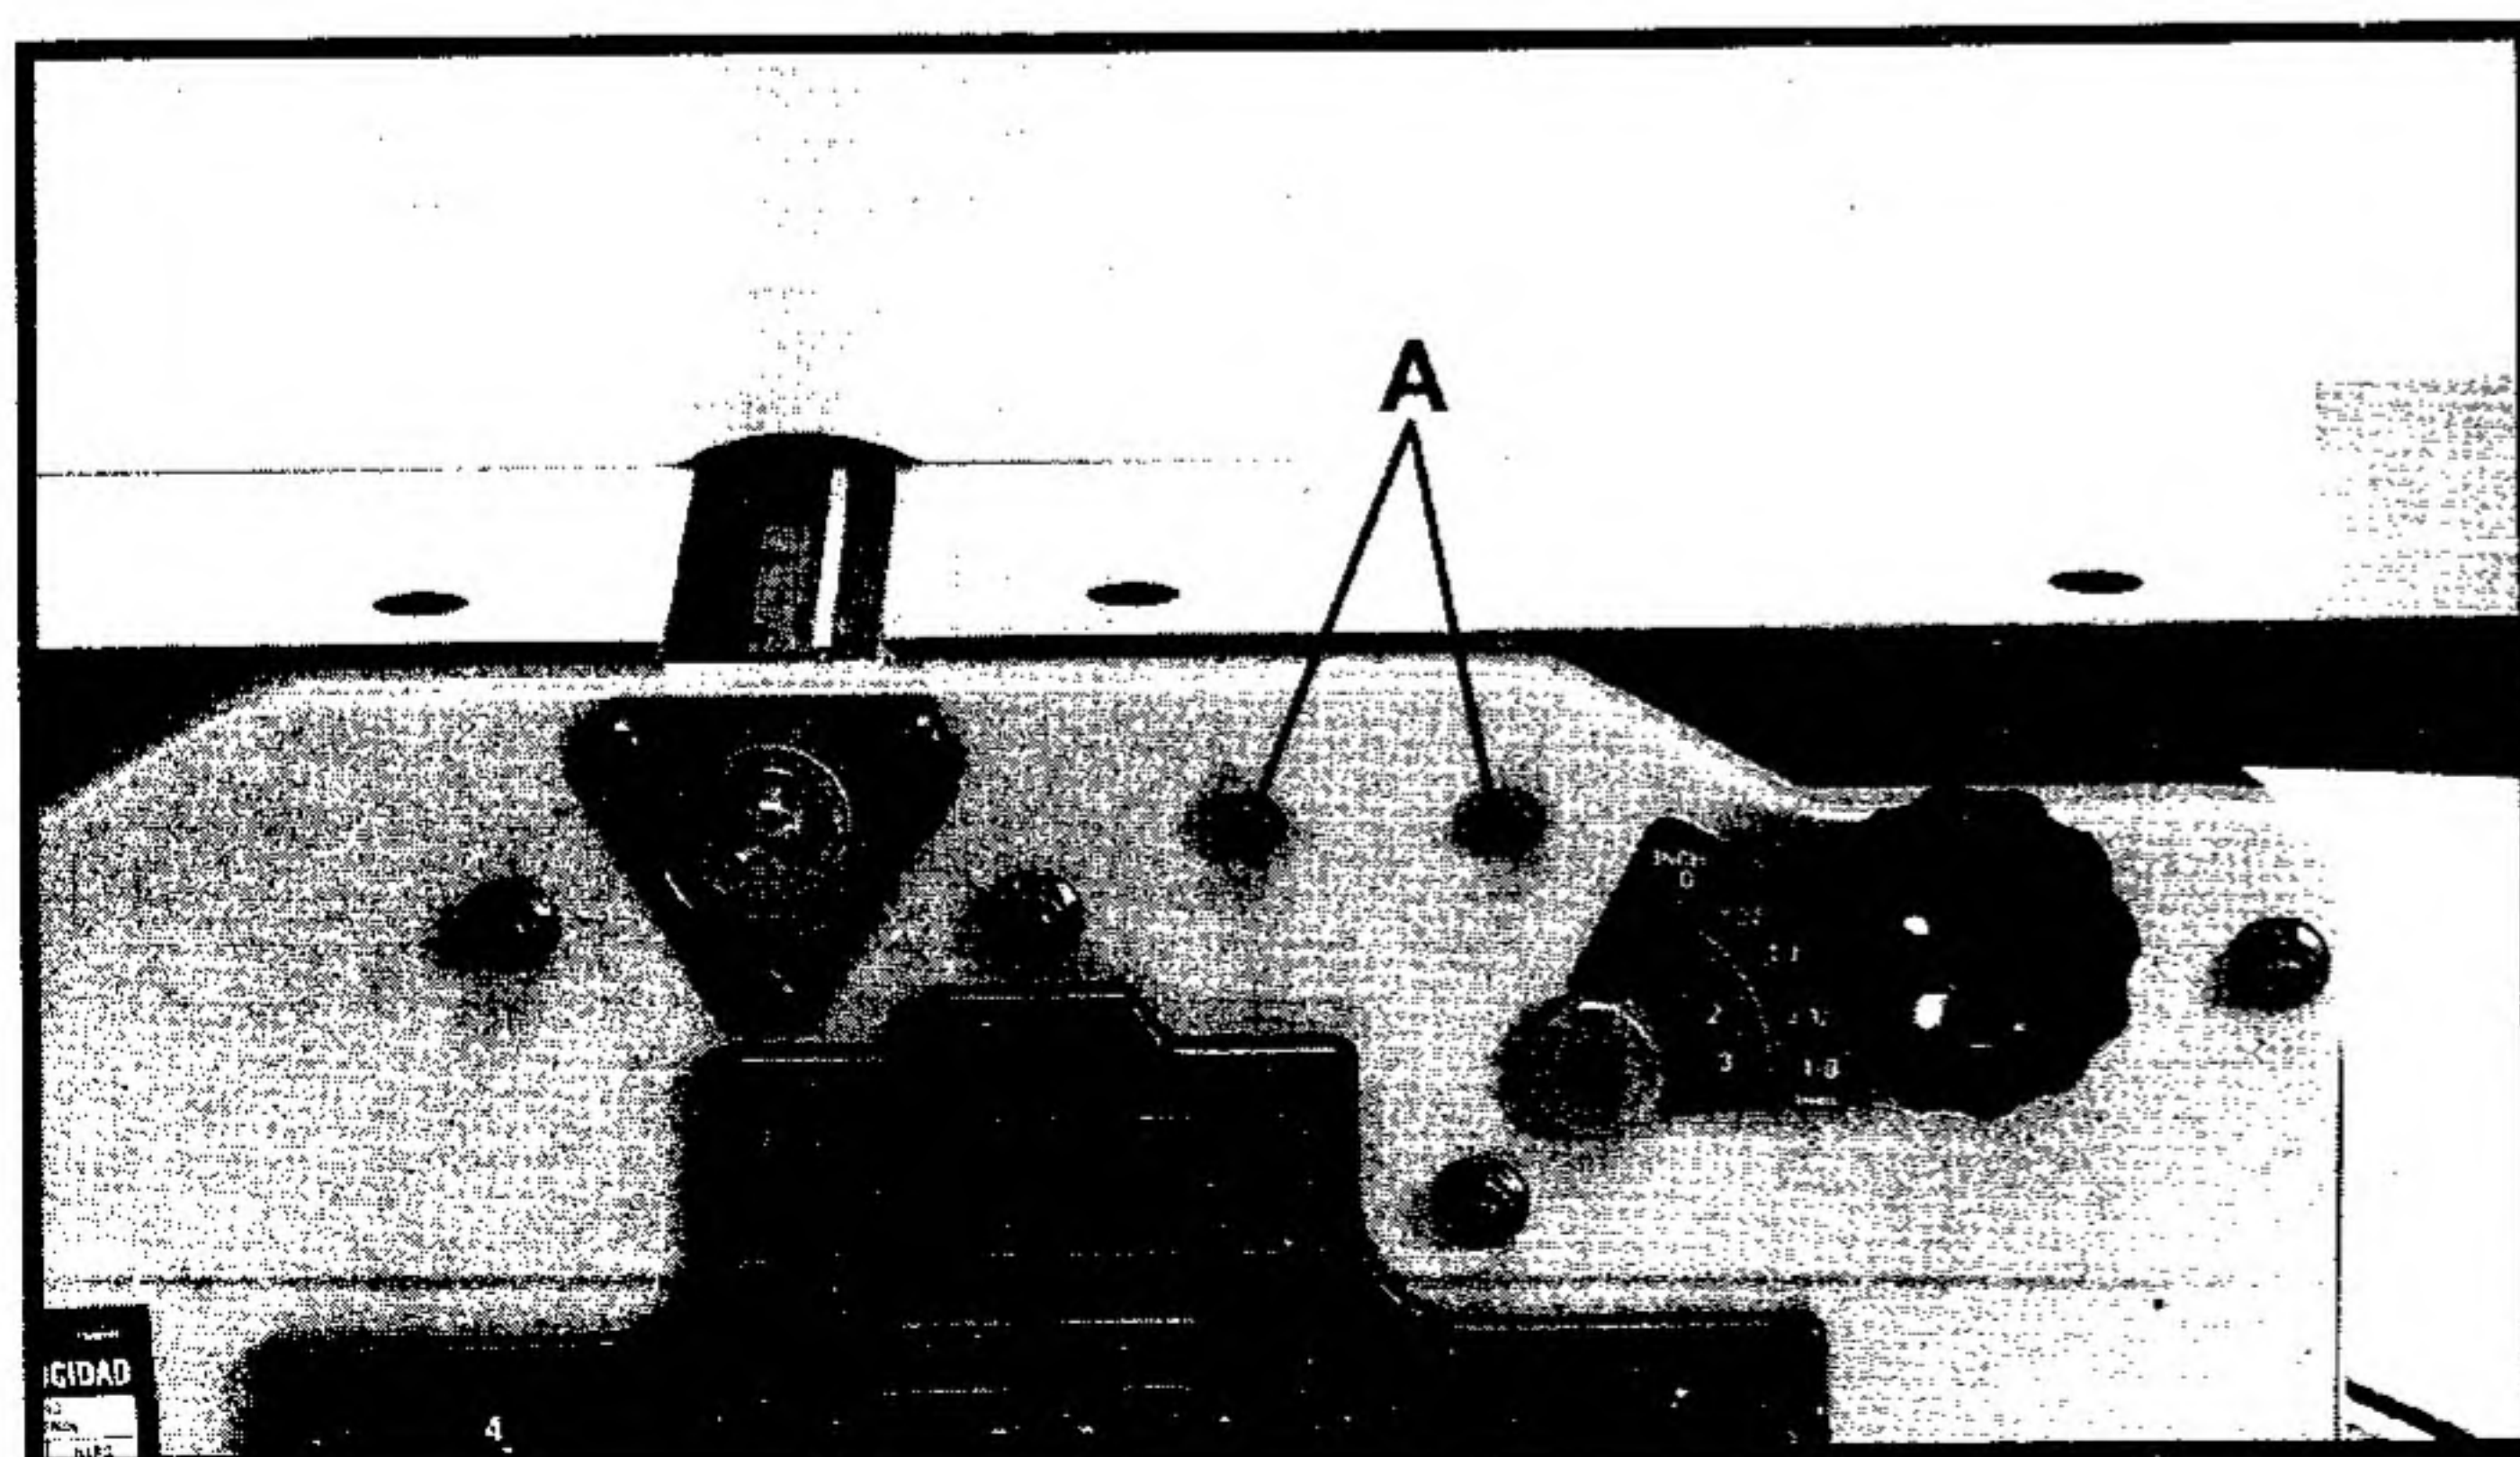

Fig. 13
1. Locate the two M6x1x12mm button head screws (A) Fig. 13 in front side of jointer base. **MAKE SURE THEY ARE NOT COMPLETELY TIGHTENED AT THIS TIME.**